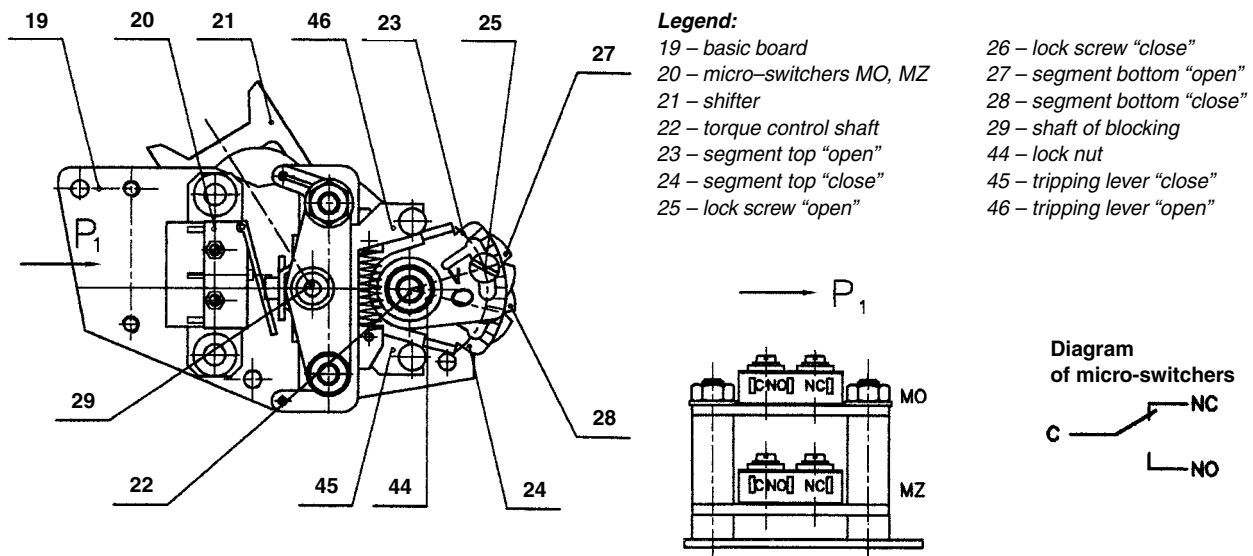

Fig. 2 - *Torque-limit switching unit*
**a) Torque-limit switching unit** – Fig. 2 is, as an independent assembly unit, composed of basic board 19 carrying micro-switches 20 and, at the same time, forms bearings for the shaft of torque control 22 and the shaft of blocking 29.
In setting different tripping torque than that to which the unit was set in the factory, the procedure is as follows: release lock nut 44 (see Fig. 2) and particular lock screw -26- (for direction “close”) or 25 (for direction “open”). Then, insert a screwdriver into the slot in top segment -24- or -23- and turn the segment until the slot in segment 28 or 27 matches with particular point on the scale. This point is determined by dividing the difference between the maximum and minimum adjustable torque in Nm by the number of divisions between the mark of the maximum and minimum torque. The result shows which part of the tripping torque (in Nm) corresponds to one division of the scale; interpolation is used for determining the point on the scale which the slot in segment 28 or 27 should tally with.